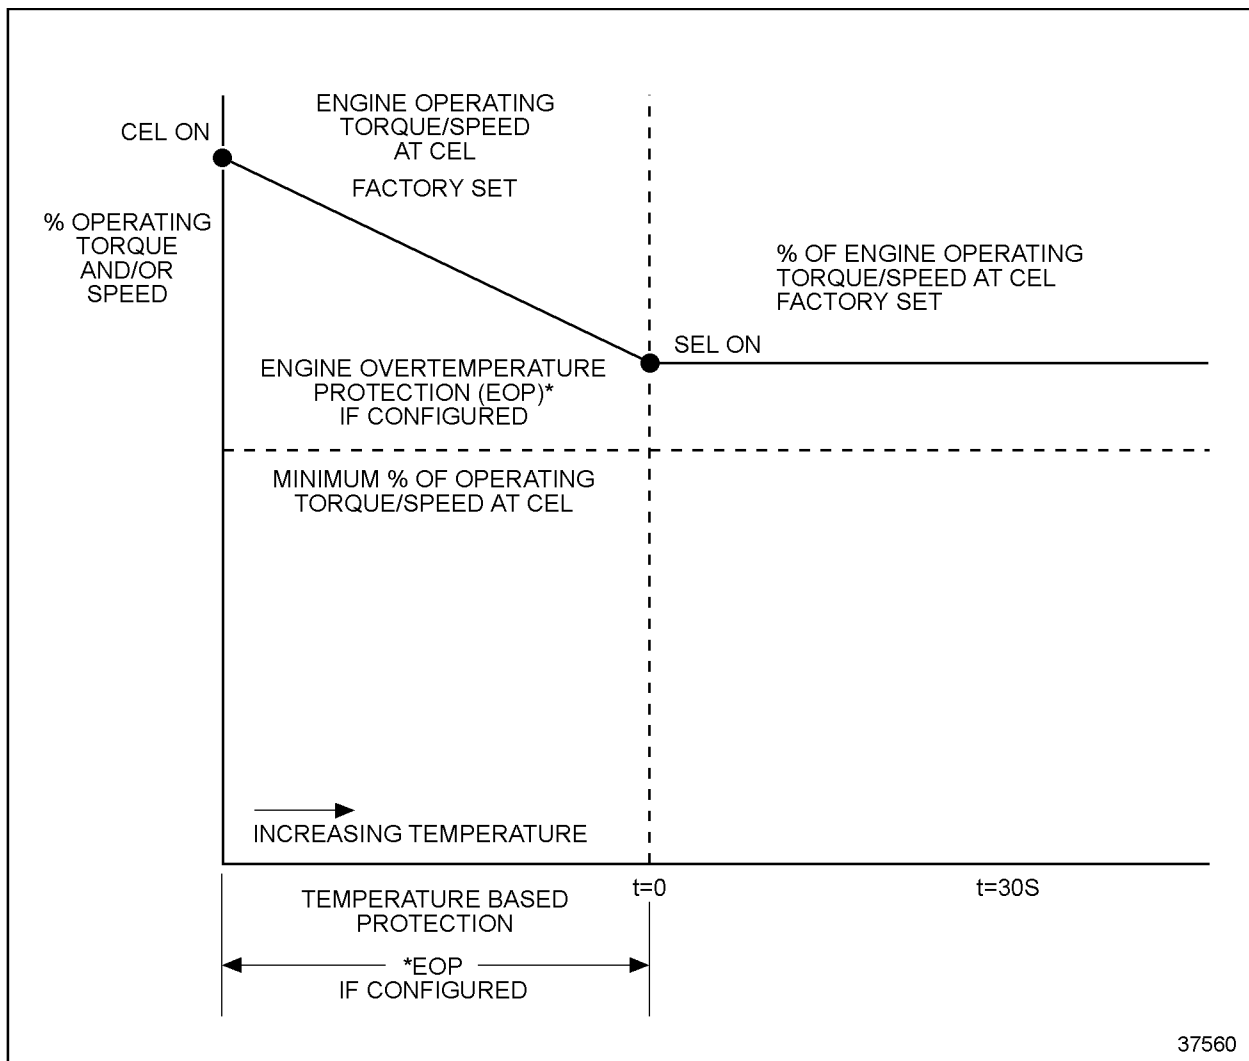

Figure 5-16 Engine Overtemperature Protection and Warning Only
- ☐ Warning only (see Figure 5-16)